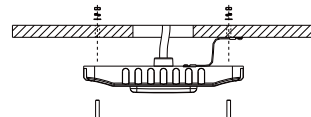

Figure 3
3. Fix another side of safety rope on the ceiling, then connect the wire of fixture to main supply according to local electrical connection mode, make sure good protection on the wire joint, after that, fix the fixture on the ceiling with accessory screws(Figure 3).